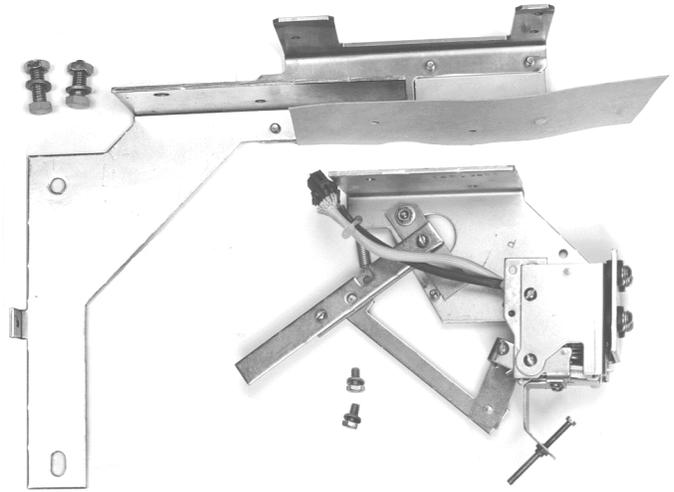
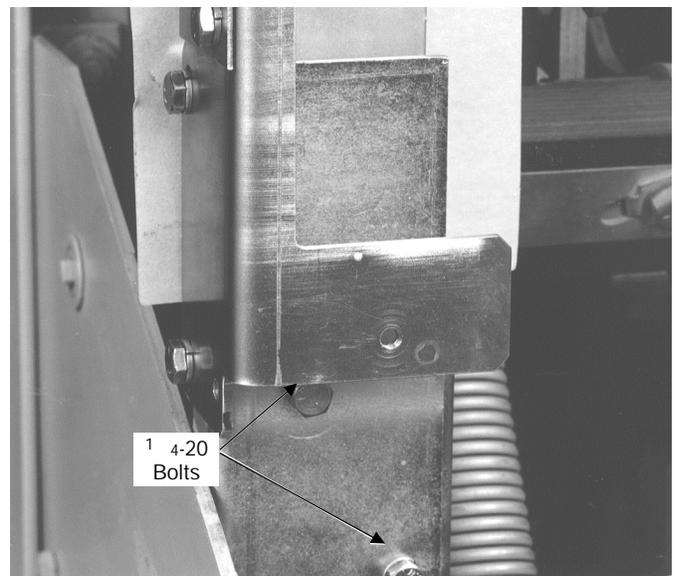

Figure 10. Flux shifter assembly and mounting bracket.
Figure 12. Flux shifter assembly attached to the mounting bracket.
Figure 10 shows the flux shifter mounting bracket, with the trip unit support bracket and insulating shield attached.
2. Secure the flux shifter assembly, shown in Figure 10, to the bracket with the two $\frac{1}{4}$ -20 x $\frac{1}{2}$ " bolts provided, as shown in Figure 12.